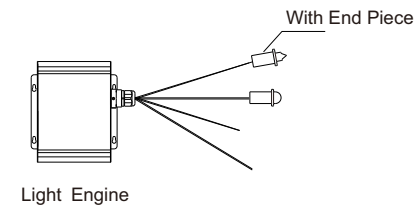

Fig.4
(2) End Lighting Fiber Optic. (See Fig.4).